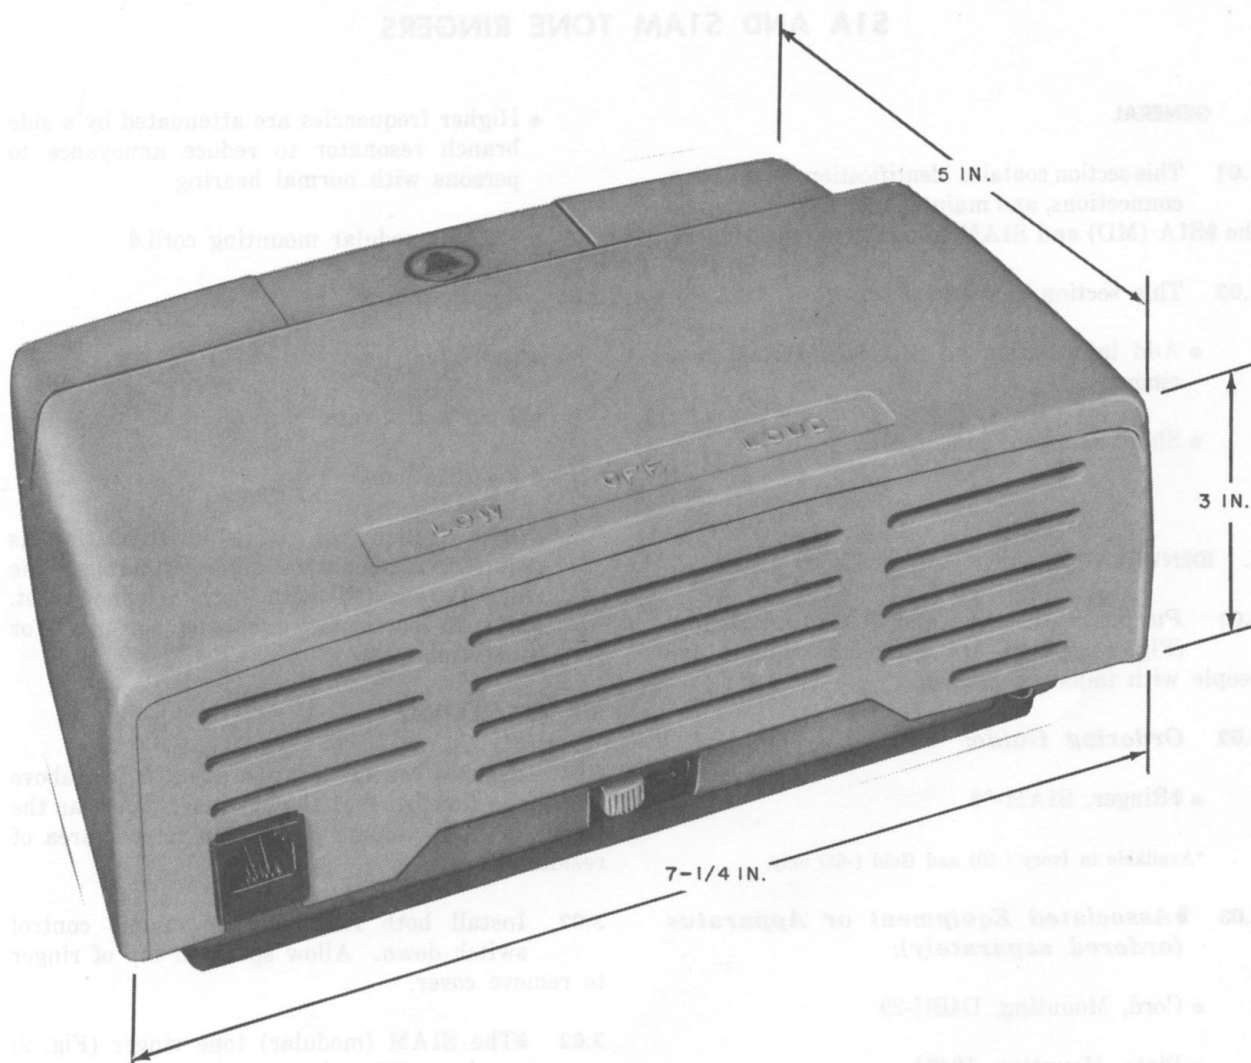

Fig. 1—S1AM Tone Ringer
2.01 Purpose: The S1A and S1AM tone ringers (Fig. 1 and 2) are extension ringers for people with impaired hearing.